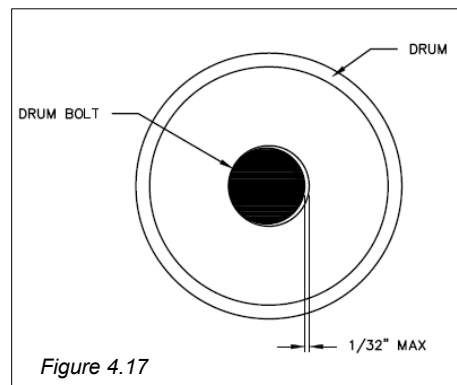

Figure 4.17
6. The spring drum should be examined for signs of distress. The drum edges should not be flared or show signs of cracking. The bore through the drums should be round and wear of 1/32" or more will require replacement of the drum (*Figure 4.17*). Excessive wear can make for uneven adjustment and affect seal disc seating. *Figure 4.18* displays the nominal I.D. dimension for each possible bolt size and the maximum allowable for each. If the measurement exceeds the maximum allowable, the drum should be replaced.